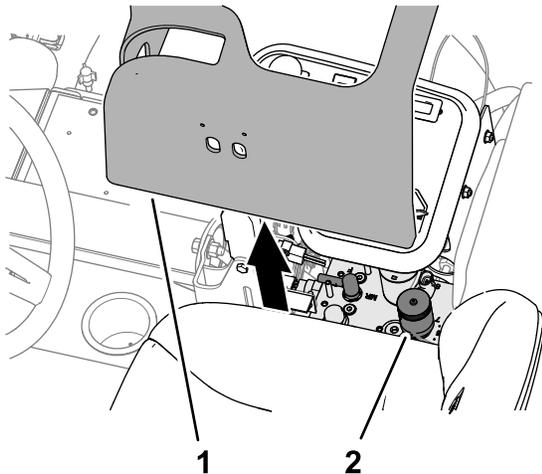

Figure 48
2. Lift the cover from the control arm (Figure 48).